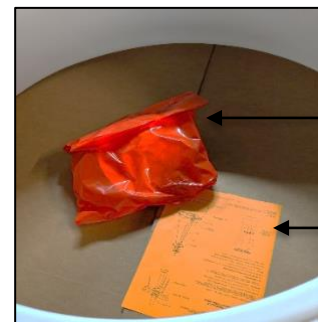

FIG. 7 - RED BAG AND
3. INSTALLATION INSTRUCTIONS (shown in FIG. 7) - Please completely read the install instructions before starting installation.
4. RED BAG (shown in FIG. 7) contains below following items: